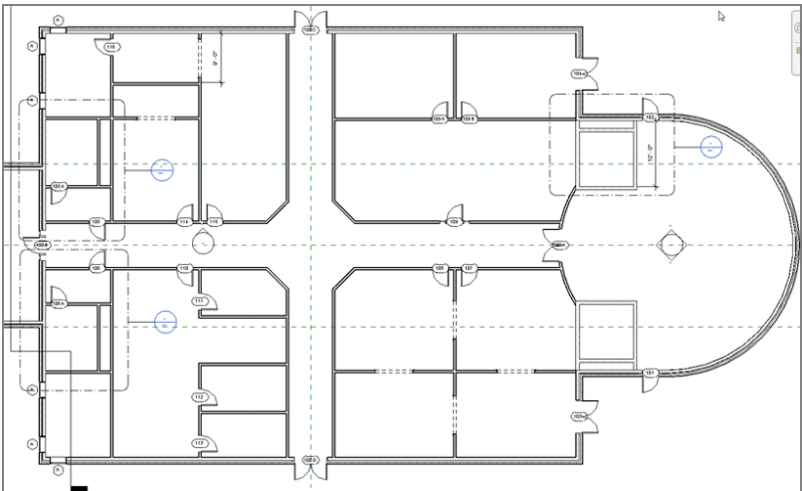

FIGURE 4.53: The first-floor layout for the east wing
2. Add walls, doors, openings, and windows to resemble Figure 4.53. These doors and windows can be any type you like. If your model varies slightly from the example in the book, don't be concerned.